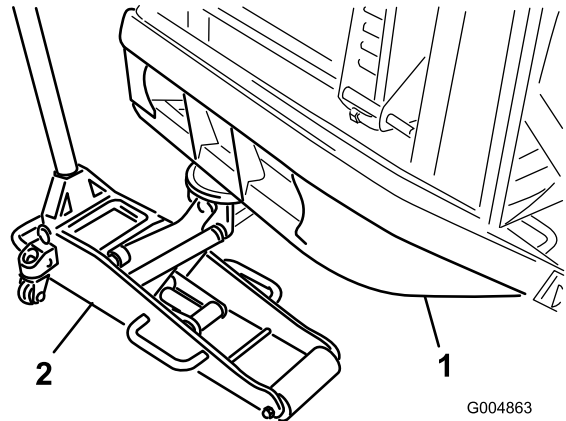

Figure 15
2. Place a jack stand under each wheel motor and a floor jack under the rear bumper (Figure 15) or suspend the traction unit from an overhead hoist.